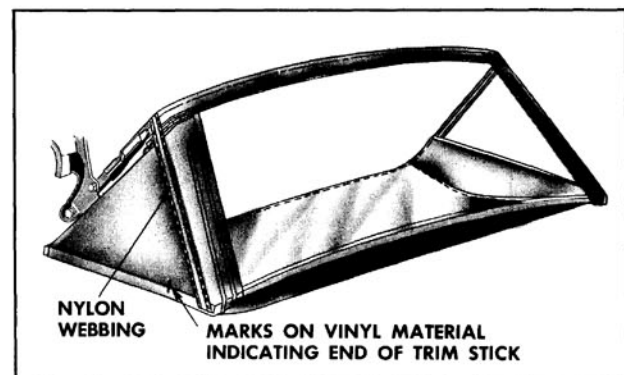

Fig. 16-438 Marking Back Curtain
20. Using chalk or other suitable material, mark ends of rear and rear quarter trim sticks on vinyl surface of back curtain material. (Fig. 16-438) Reference marks for trim sticks should be transferred to new back curtain material when Step 6 of installation procedure is performed.